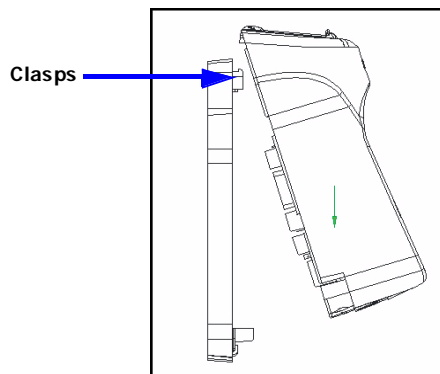

Figure C-5 Lower the Terminal onto the Mounting Plate
11. After the mounting plate is anchored to wall, hold the terminal upright at a 45 degree angle and push downward onto the clasps at the top of the mounting plate, an example of which is shown in **Figure C-5**.